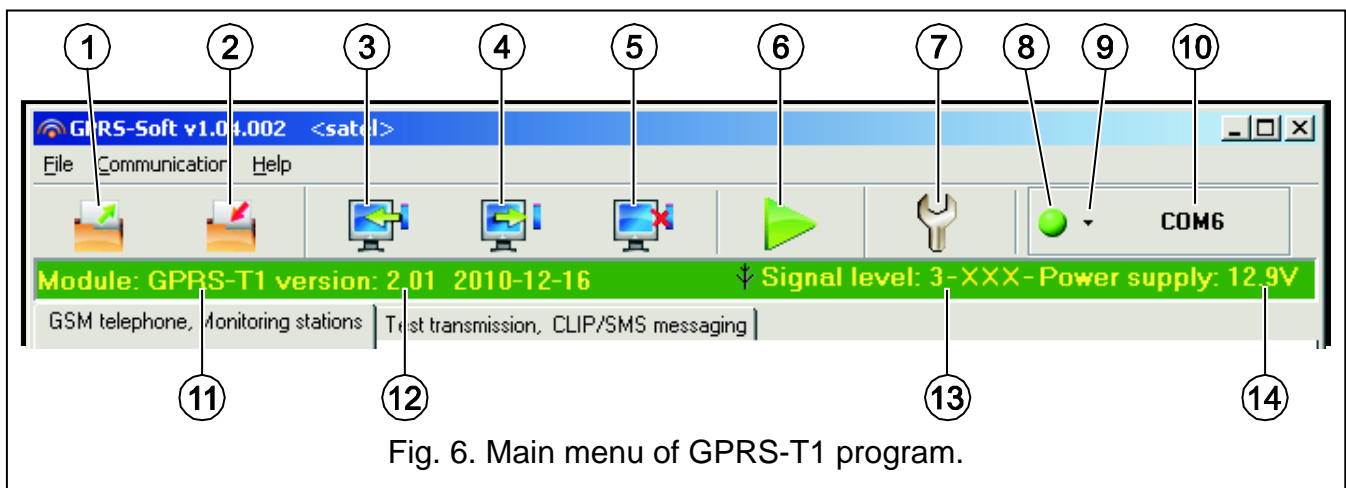

Fig. 6. Main menu of GPRS-T1 program.
The serial COM port of the computer must be connected with the RS-232 (TTL) port on the converter electronics board. The cables for making this connection are available as a set designated DB9FC/RJ-KPL. Indicate in the GPRS-SOFT program the computer COM port to be used for communication with the converter. To do so, click on the "Configuration" button (see: Fig. 6 and explanations for the figure) and, in the window that will open, select one of the available computer COM ports. After activation of the selected COM port, the program will establish communication with the converter.
2. Click on the "Configuration" button (see: Fig. 6 and explanations for the figure) and, in the window that will open, enter the number of TCP port selected for communication with the converter. The number will have to be included in the body of SMS message which will be sent to the converter GSM telephone number to initialize communication.
3. Click on the button (see Fig. 6). In the menu that will open, select "TCP/IP" to activate the server.
Explanations for Figure 6: